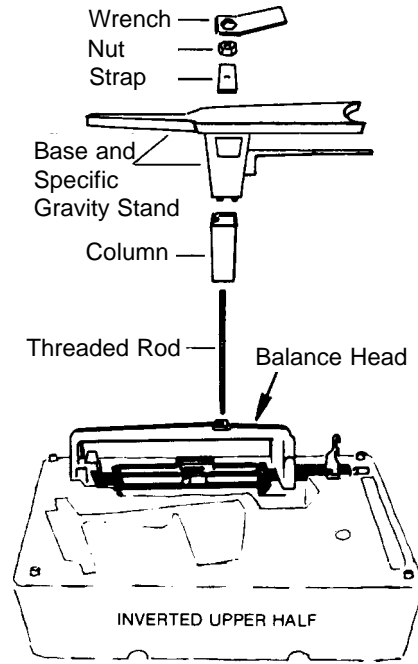

Figure 5.
3. Remove the balance head from the lower half of the poly-container. Invert the balance head and nest it in the recess of the top half of the poly-container. See Figure 5.